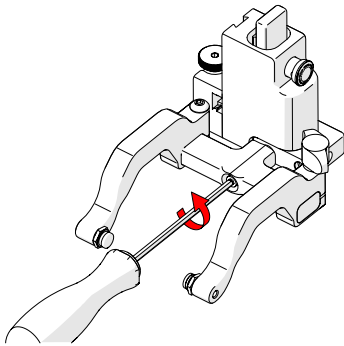

Fig. 179 - Remove yoke
1. Using the supplied 3 mm driver, unscrew the yoke (Fig. 179).